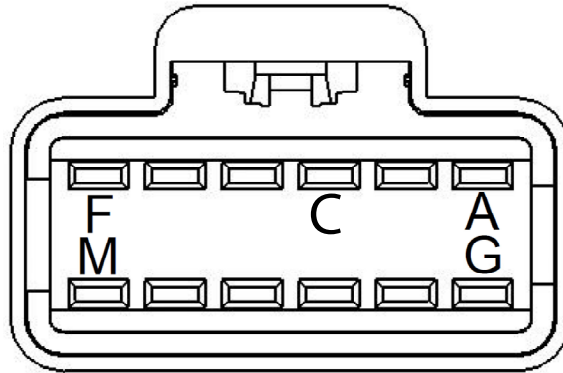

Figure 9
7. Remove the terminal in cavity C, insulate the terminal using SBHS-THS RED Heat shrink tube and secure with heat (see *Figure 9*).